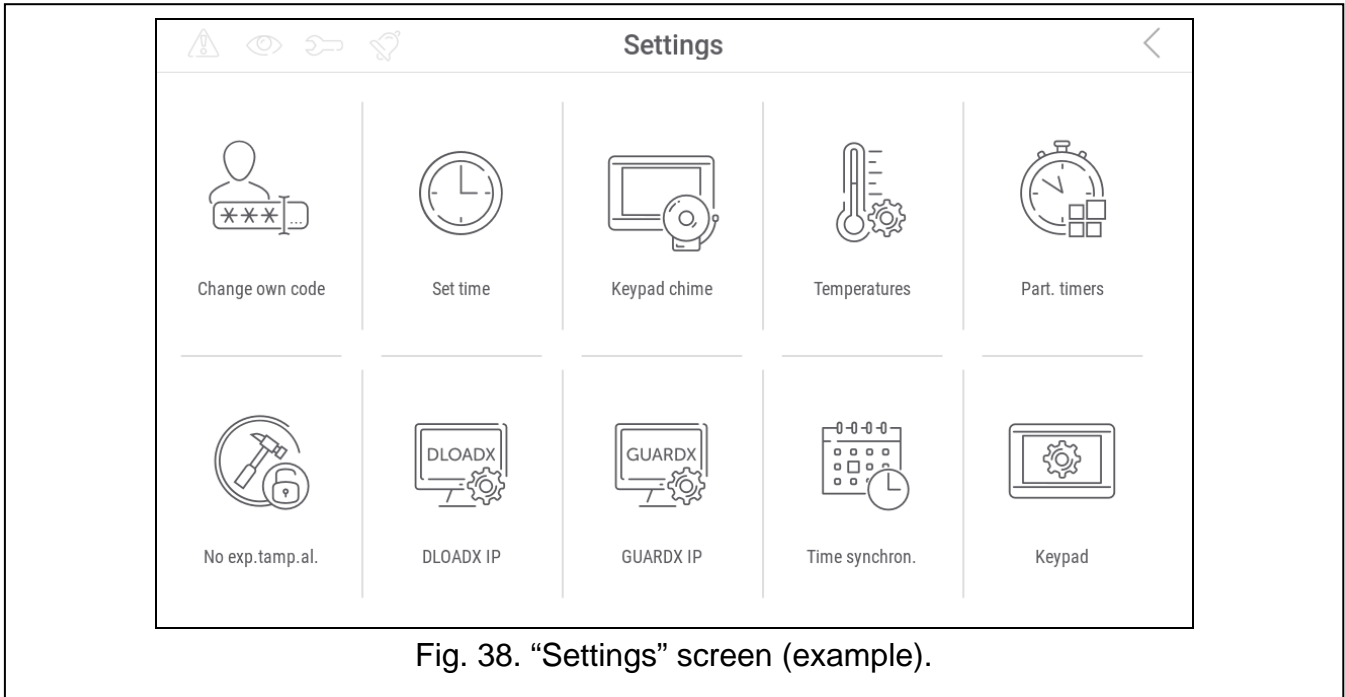

Fig. 38. "Settings" screen (example).
5. Tap the “Settings” function. The “Settings” screen will be displayed (Fig. 38).